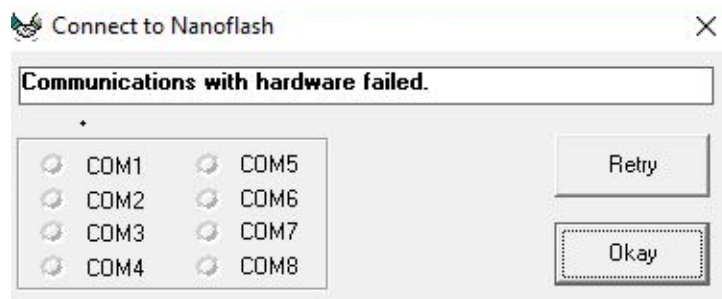

Figure 7. Communications failed message.
- If communication with the hardware has failed, the message shown in Figure 7 will appear in the Connect to Nanoflash window.